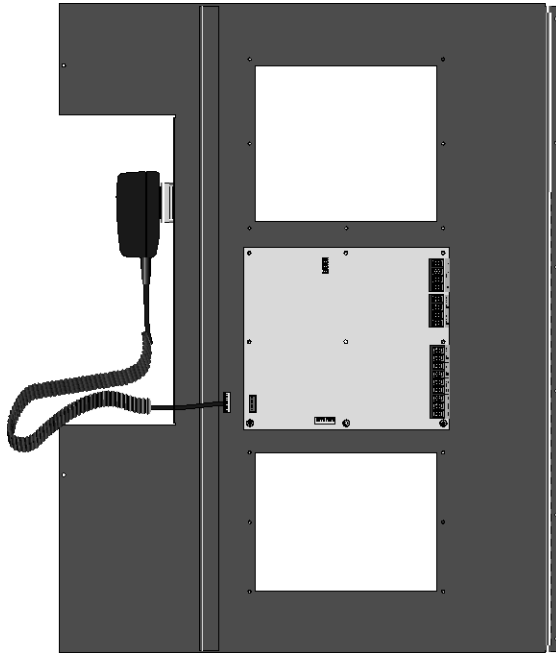
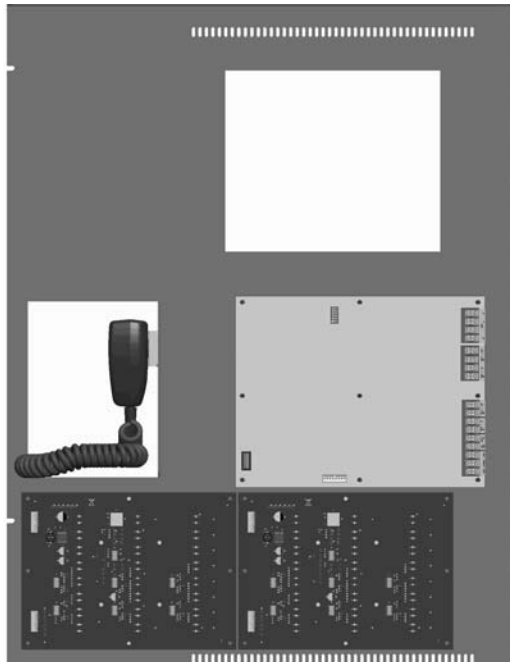

Figure 4-85 Back View of IFP-100ECS or IFP-1000ECS Dead Front Panel
Figure 4-86 Back View of IFP-2000ECS Dead Front Panel
4. Unplug the Microphone from the microphone connector. See Figure 4-85 or Figure 4-86.